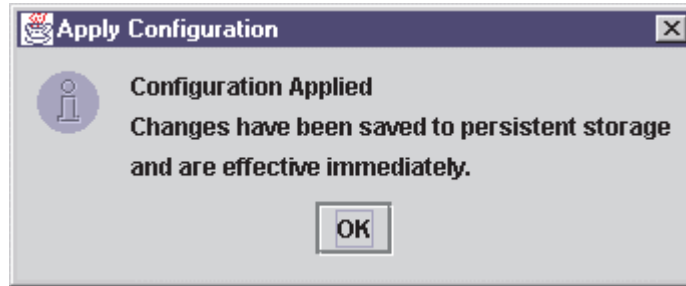

Figure 22. Apply Configuration dialog window
- Click **Apply** to apply the new configuration. The new configuration is saved to the persistent configuration file; it will be used the next time you start the system. The new configuration remains in memory and displays after the apply operation completes. If configuration is successful, the message shown in Figure 22 on page 89 displays. Click **OK**.